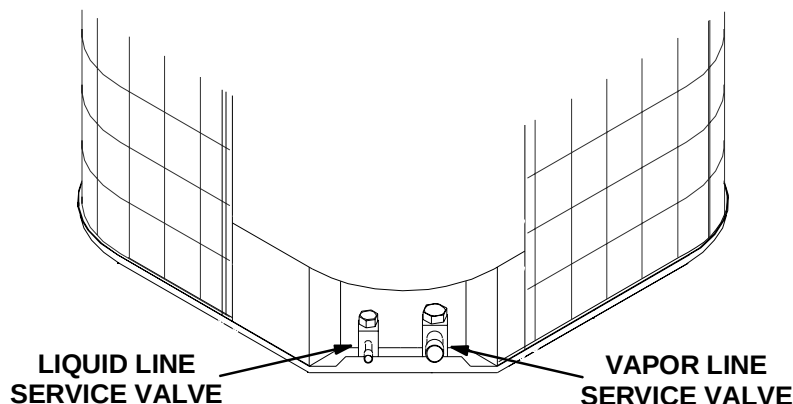

Figure 2
1. Be sure both hand valves on the gauge manifold are closed relative to the center port (i.e., turned in all the way.) Attach this gauge manifold to the service valves on the unit (see Figure 2). Do not open the unit service valves. Do not use refrigerant from the unit for leak testing - it has been precisely measured at the factory for optimum performance.